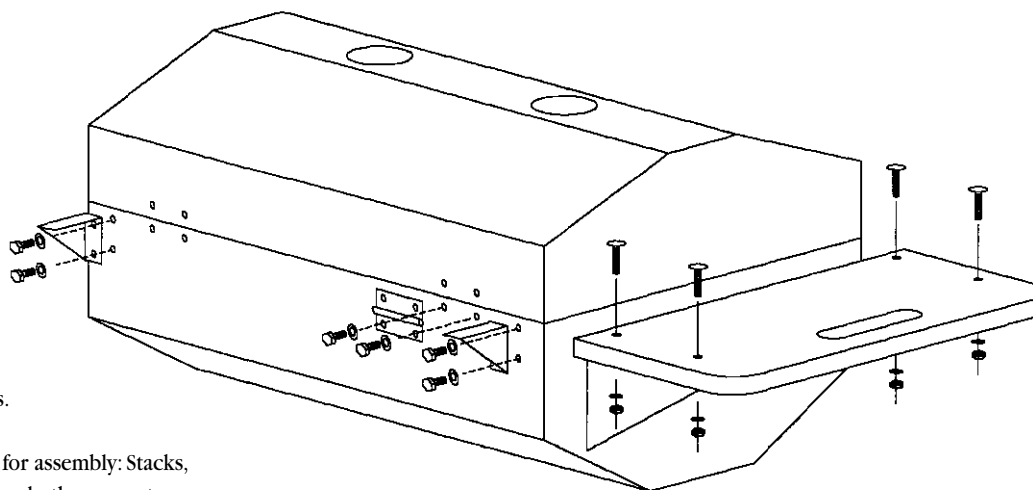

Figure 4
3. Refer to Figure 4. Select the following parts for assembly: